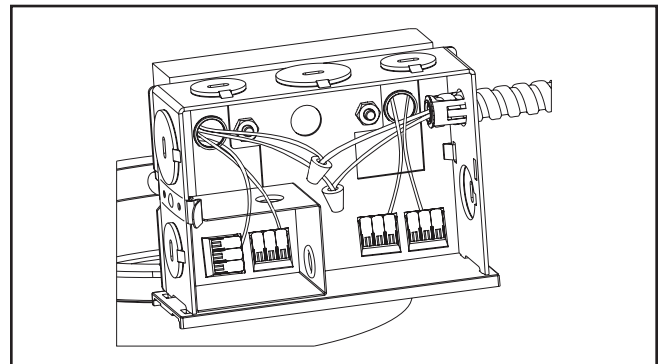

Figure 42.
2. Remove junction box cover (Figure 42).